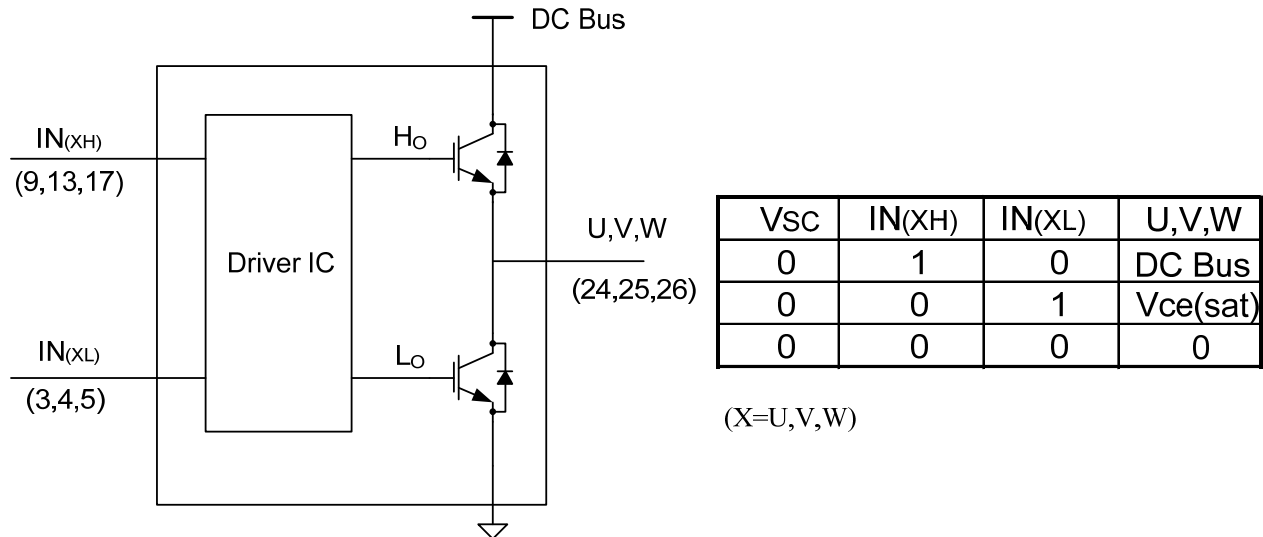

Figure 4-11. Input/Output Signal Circuit
Figure 4-11 is a timing diagram showing the operation of the short circuit protection. When current flows in the negative DC bus a voltage is developed across R_{SHUNT} . The voltage across R_{SHUNT} is filtered using an RC circuit consisting of R and C and connected to the CIN input on the IPM. If the collector current exceeds the I_{sc} level for long enough to charge the shunt filter capacitor (C) to a voltage greater than $V_{sc}(ref) (R_{SHUNT})$. The filter (C, R) adds a time delay to prevent erroneous operation of the protection due to free-wheeling diode recovery currents and voltage surges caused by stray inductance in the sensing circuit. Selection of the shunt resistor and filter components will be covered in sections 4.6.4. When the protection is activated all IGBTs are turned off and the open collector fault output is pulled low. The IGBTs remain in the off state and the fault signal remains low for the duration of the fault timer (t_{FO}). The length of t_{FO} is set by the external timing capacitor C_{FO} . During this time the control input signals are ignored. Normal operation resumes at the first off-to-on transition following the end of the fault timer.